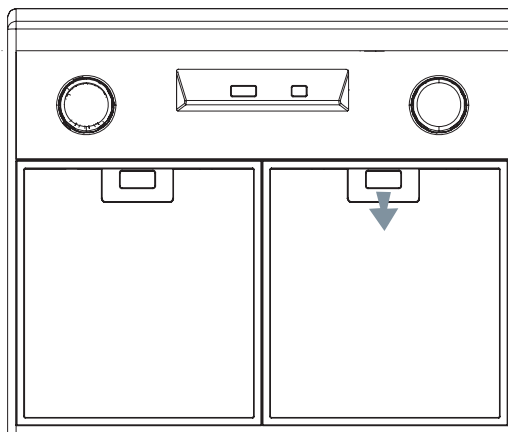

Fig 2
**Removing Metal Mesh Filters (Fig 2)**